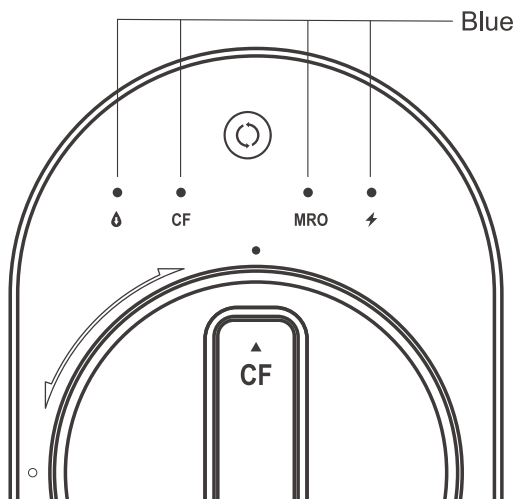

Figure 10
**NOTE:** The system will beep. The filter life indicators will flash blue, purple and red in turn and then stay on blue for 3 seconds ( **Figure 10** ).